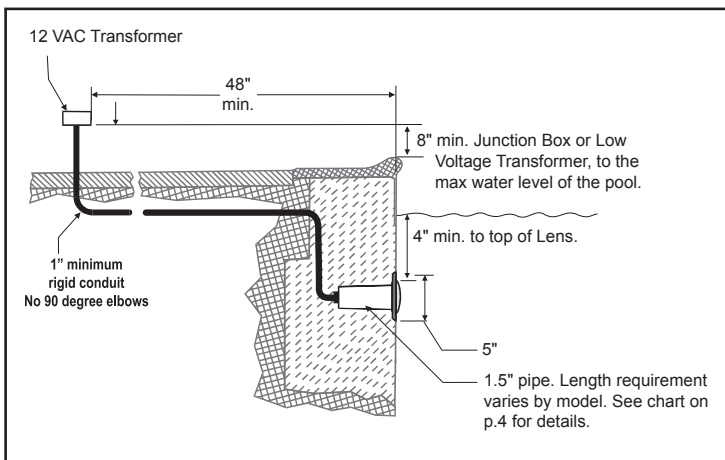

Figure 1. Jandy® Pro Series LED Light Installation with Standard 1.5" Plastic Fitting
NOTE: The electrician must complete preparatory steps before light fixture is installed. See Figure 1.
1. The junction box or the low-voltage transformer must be located at least eight (8) inches (measured from the inside of the bottom of the junction box or transformer) above the MAXIMUM water level, OR at least four (4) inches above the ground level or pool deck, whichever is greater. The junction box or transformer must also be installed at least forty-eight (48) inches (4 ft.) from the edge of the pool. See Figure 1.
2. A standard 1.5" plastic wall / return fitting (not included) must be installed so that the top edge of the underwater light's lens is at least 4 inches (10.2 cm) below the surface of the water in the pool. See Figure 1.